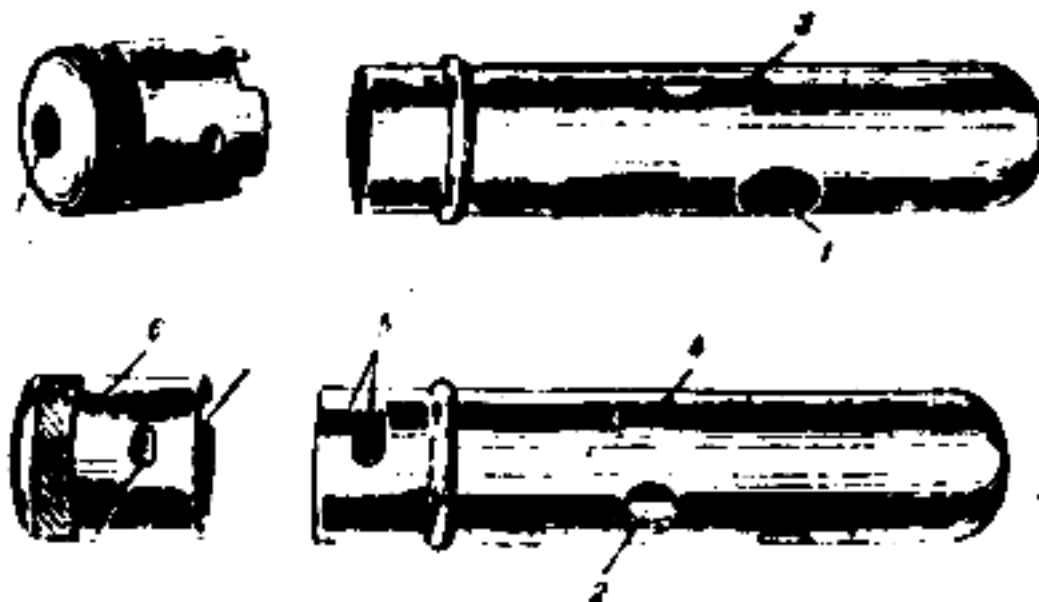

Figure 57. Accessories case.
The accessories case (fig. 57) serves both as a case for the jag, wire brush and combination tool, and as a handle for the combination tool and cleaning rod. The cleaning rod is attached to the case by passing the rod through the small round hole (2) until the head of the rod fits into the large round hole (1). The combination tool is attached similarly, using the two oval holes (3 and 4).